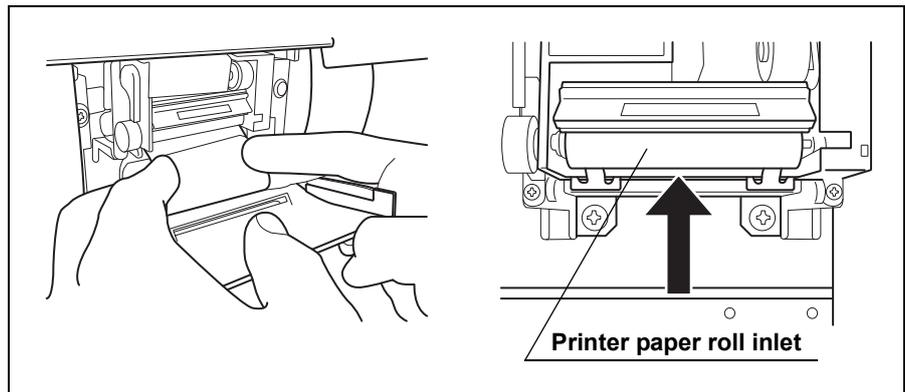
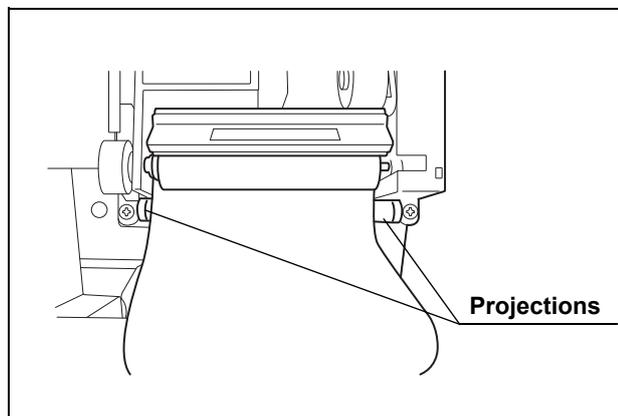

Figure 7.116
Figure 7.117
8. Hold the two edges of the printer paper roll as shown in Figure 7.116 below and insert the paper into the printer paper roll inlet of the printer. Insert so that the printer paper roll is between the projections as shown in Figure 7.117.